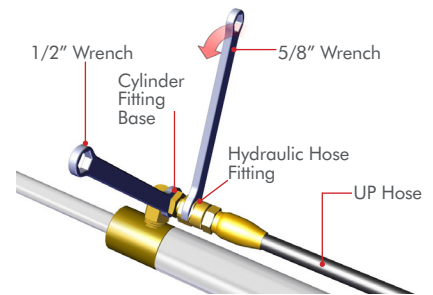

Figure 1
STEP 1: Disconnect the **UP Hose** from the **Hydraulic Cylinder Fitting** by holding the **Cylinder Fitting Base** with a **1/2" wrench** and turning the **Hydraulic Hose Fitting** counter-clockwise with a **5/8" wrench**. **FIG 1**